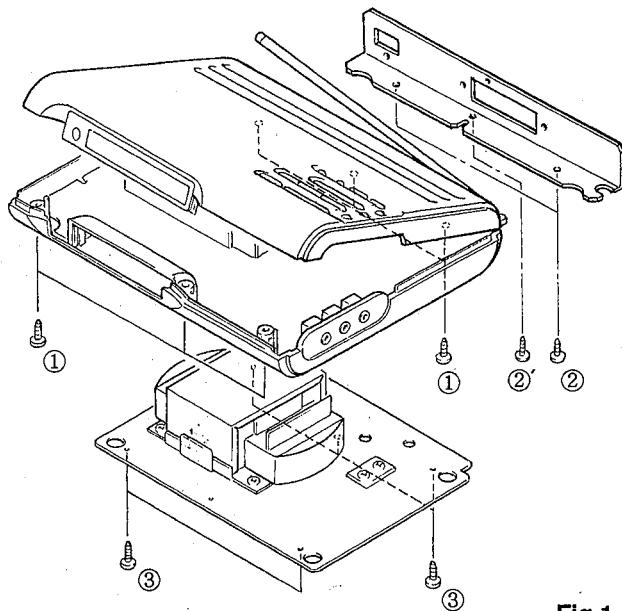

Fig.1
- Remove 6 screws (①) in Fig.1.
- Remove 2 screws (②) in Fig.1.
- Remove 1 screw (②') in Fig.1.
- Remove 5 screws (③) in Fig.1.